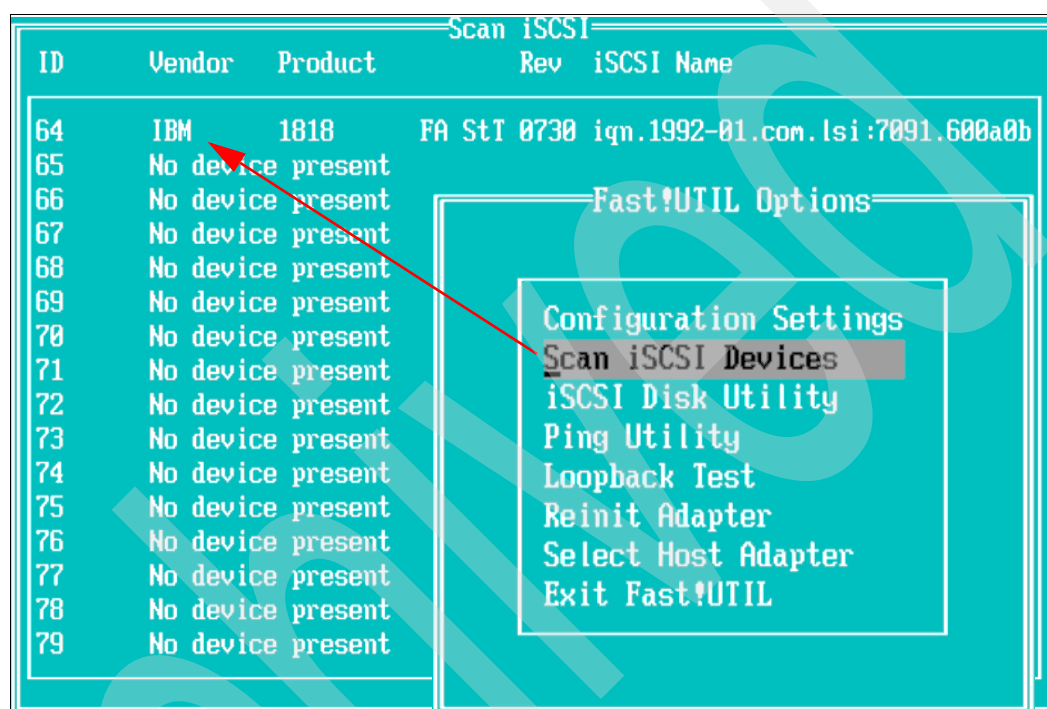

Figure 5-35 Verify iSCSI connection
3. In the *Scan iSCSI Devices* window, the adapter can see the DS5000 controller as shown in Figure 5-35.